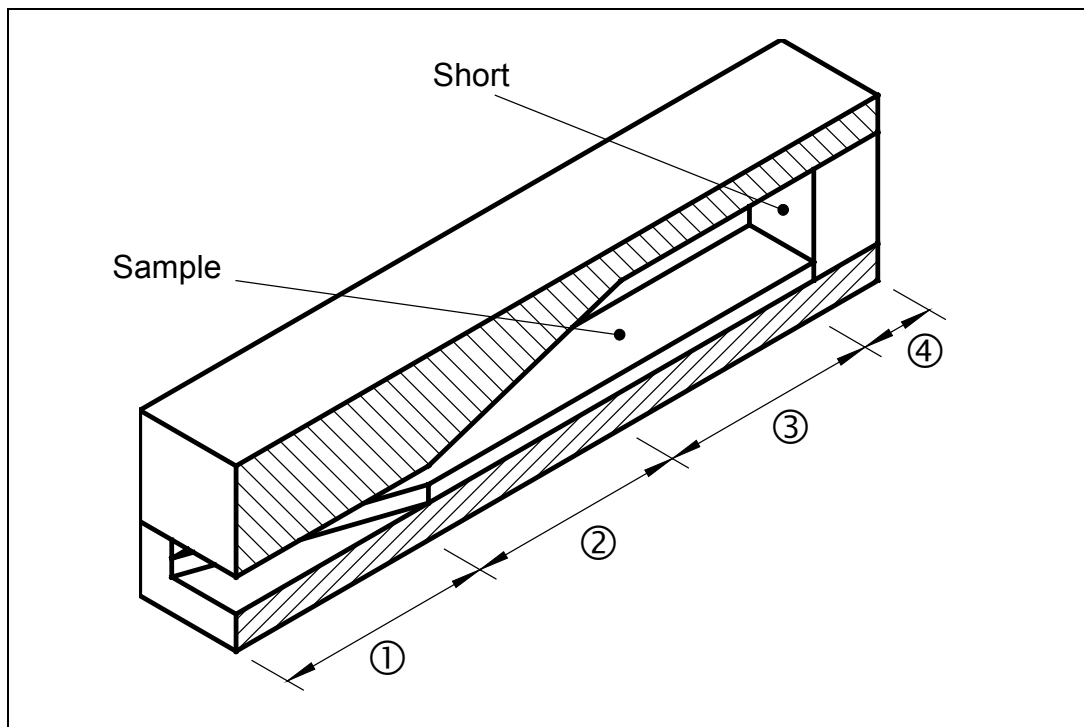

Figure 6.4: Cutaway view of the plane surface wave simulator cell (not to scale)
A plane surface wave simulator cell (Fig. 6.4) has been designed to measure the complex phase constant of a fundamental E-mode plane surface wave mode at X-band frequencies. The experimental system can be used to measure materials up to approximately 8mm in thickness. A sample of the material under test is placed on the floor of the test cell over its entire length, 800mm for this design. The first section of the test cell, ①, is a section of standard X-band waveguide. A coax to waveguide adaptor fits to the input of the test cell. Along the length of section ①, the sample is tapered in the H-plane to provide a matched transition between the empty and partially filled waveguide sections. The transition converts the fundamental empty waveguide mode  $TE_{10}$  into a fundamental ( $n=1$ ) partially filled waveguide mode. After this transition, the waveguide height is increased to 34.04mm via a taper (section ②) on the upper horizontal wall of the waveguide. A taper from 10.16mm to 34.04 mm (the height of a WG10 S-band waveguide) is quite common in industry and will not convert a lot of fundamental mode energy into higher order modes. Section ③ will support the fundamental partially filled waveguide mode that resembles the plane surface wave. At the furthest end, the test cell is terminated with a short circuit ④. The test cell can be opened at the top. This makes fastening the test material a lot easier. However, this also implies that the waveguide has to be cut along its length. The cut is parallel with the H-plane and located in a corner of the waveguide as field intensities are at their lowest there. Also, the wall thickness of the waveguide is an odd multiple of the trapping distance of a standard WG16 X-band waveguide flange. The screws are positioned at an even multiple of this distance. Detailed engineering drawings are included at the end of this section.